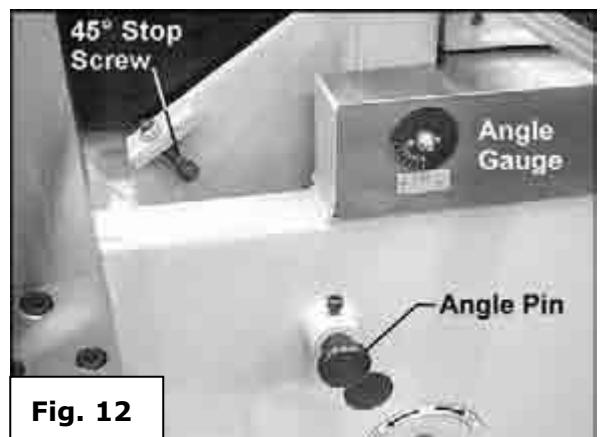

Fig. 12
The angle pin (Fig. 12) should be pushed in completely. (You may have to slightly loosen the socket head cap screw on the angle pin to allow the angle pin to move)
- Loosen the hex nut on the 45 degree stop screw (Fig. 12)
- Turn the stop screw until the 45 degree angle is obtained. Check this setting by pivoting the head down until the stop screw contacts the angle pin. The angle can be read on the angle gauge (Fig. 12)
Make further turns of the stop screw if needed, then tighten the hex nut on the stop screw. When using the 45 degree stop, always tighten the locking handle (Fig. 12)